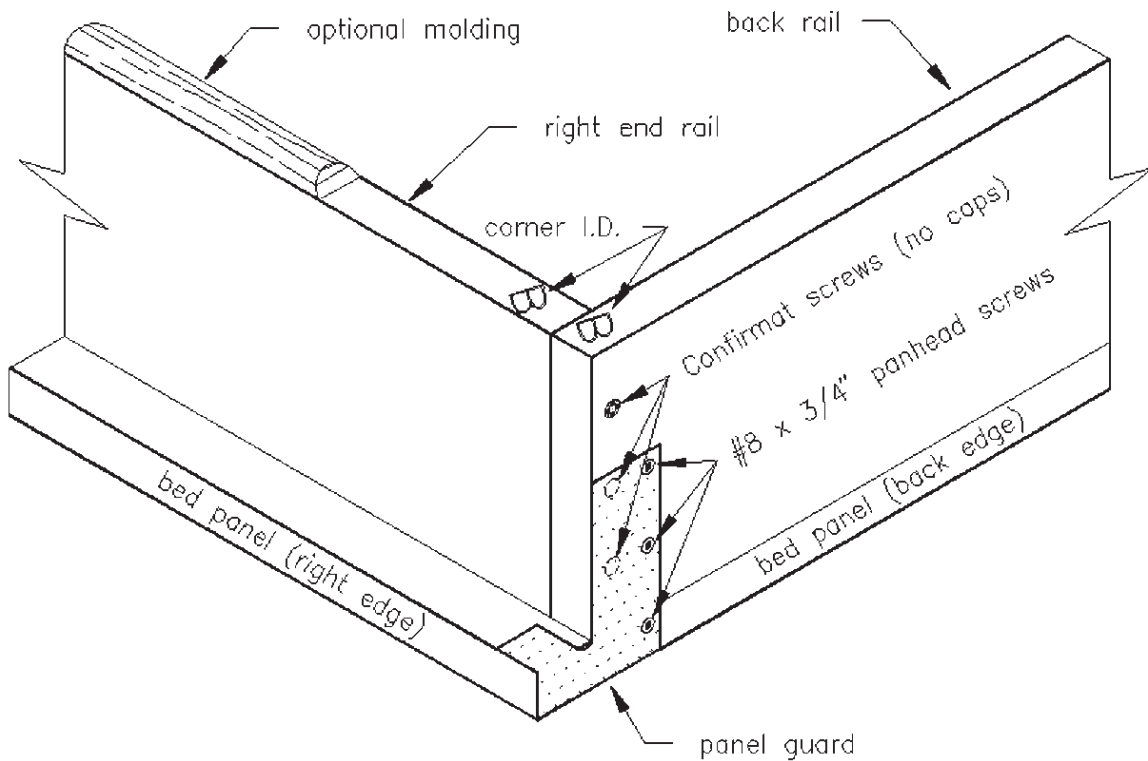

Figure 9. The Right Panel Guard.
- Attach the Velcro straps to the front and back cleat-holes that you left open in Step 11 using 3/16" x 3/4" (OD) flat washers and #8 x 1 1/4" wood screws screwed through the folded-over Velcro ends. Make sure that the Velcro "hooks" and "loops" face each other.
- Position the left and right Panel Guards against the outer ends of the Back Rail so that the bent tab sits on the inner surface of the corner of the BED PANEL, see **Figure 9**. Attach using #8 x 3/4" panhead screws.